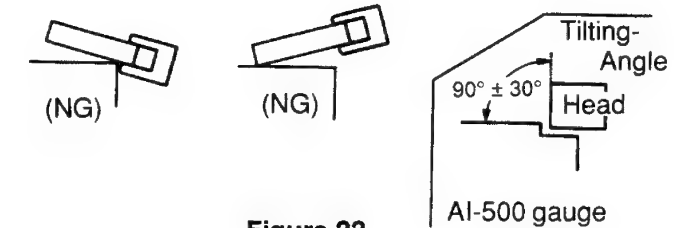

Figure 23
- (4) Adjust the height of the head as shown in Figures 23, 24 and 25.
- ① Place the height adjustment gauge (AI-500) on the head base, and adjust the height so that the check bar fits in the tape head guide smoothly.
- ② When the check bar touches the top (or bottom) of the tape guide, insert a spacer (t 0.1 mm or polislid washer t 0.13 mm). If necessary, remove the spacer.